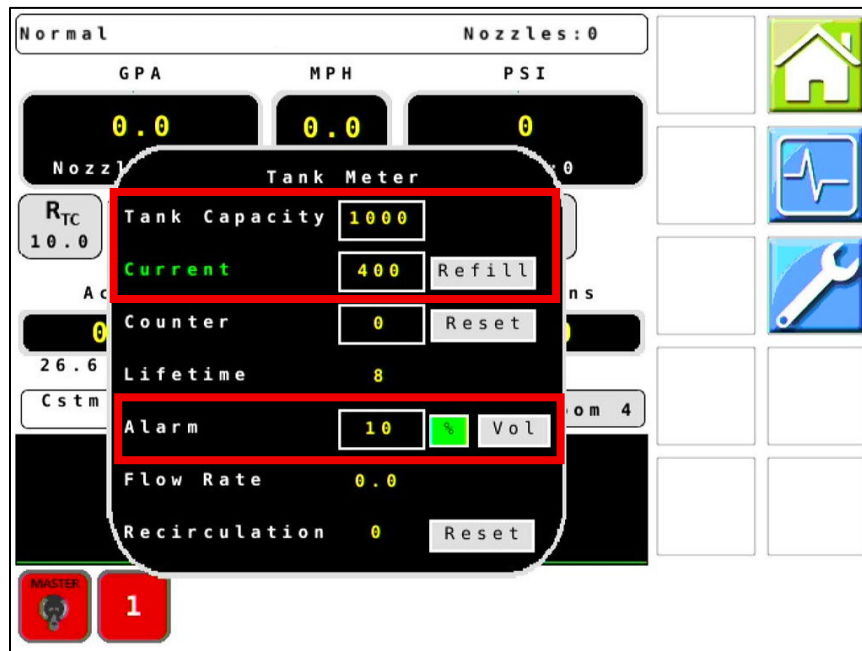

Figure 26 – Tank Meter Popup
51. **Figure 26:** Enter the **Tank Capacity**, **Current Volume** in the tank, and the **Alarm** threshold for alerting when volume is running low if desired.